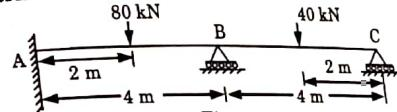

Fig. 4.
- d. Analyse the continuous beam as shown in Fig. 4. If the downward settlement of supports B and C are 10 mm and 5 mm respectively. Take  $EI = 184 \times 10^{11} \text{ N-mm}^2$ . Use flexibility matrix method.